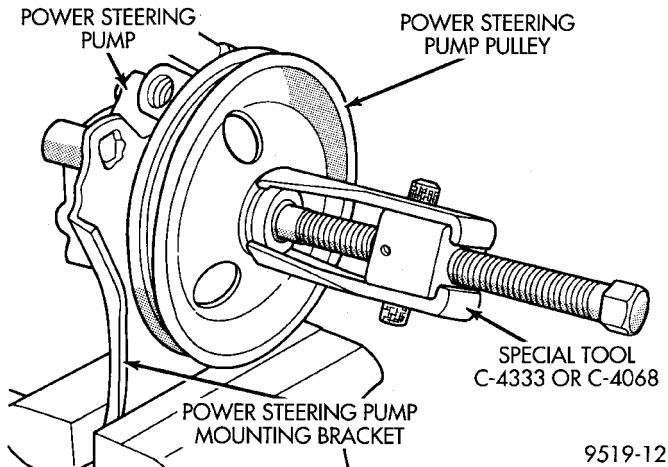

Fig. 36 Pulley Removal From Power Steering Pump Shaft
(2) Mount power steering pump in a vise using the power steering pump mounting bracket (Fig. 36). Install Puller, Special Tool C-4333 or C- 4068 on power steering pump pulley (Fig. 36). Remove the power steering pump pulley from the power steering pump shaft.
(3) Replace power steering pump pulley if bent, cracked, or loose.